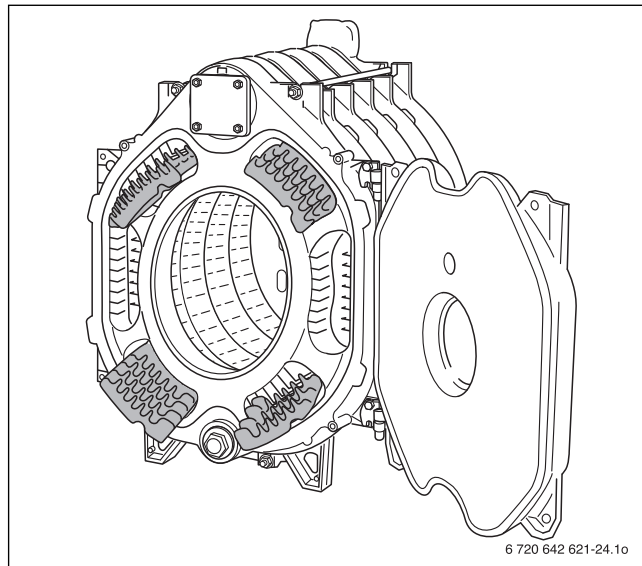

Fig. 30 Flue gas baffle plates
- ▶ Take flue gas baffles from the crate and insert into the flue gas passages **as indicated by their inscription** (→ Fig. 30 and Tab. 10).